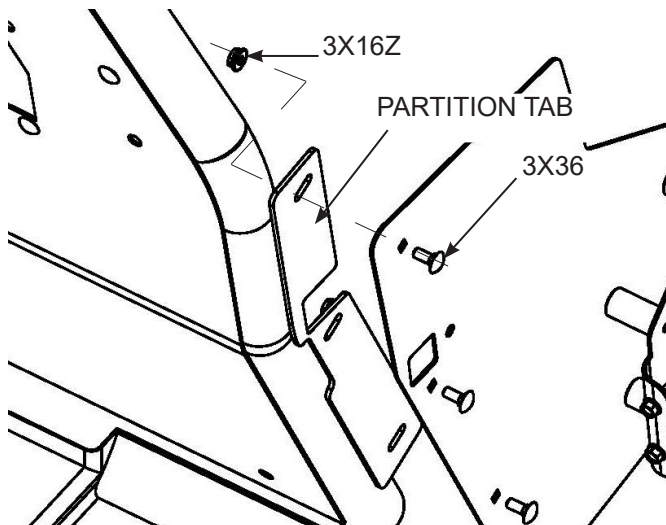

Fig. 3
- Carefully lift the partition through the vehicle. Align the partition tab with the (3) square holes in the mounting plate.
- Start the three (3X36) bolts and (3X16Z) whiz nuts on the partition tab to hold in place. (Fig. 3)